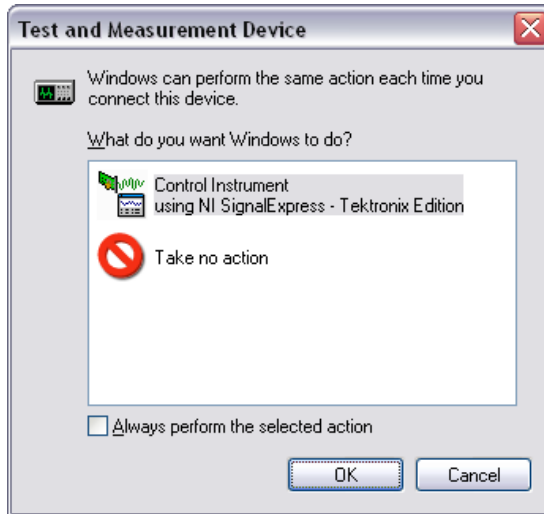

Figure 3-5. USB Plug-and-Play Dialog Box
4. Windows prompts you with a dialog box, as shown in Figure 3-5, indicating that the Tektronix AFG3000 series arbitrary/function generator has been detected and prompts for the action to take. If **Control Instrument using NI SignalExpress - Tektronix Edition** is not selected, click **Control Instrument using NI SignalExpress - Tektronix Edition** and then click the **OK** button.